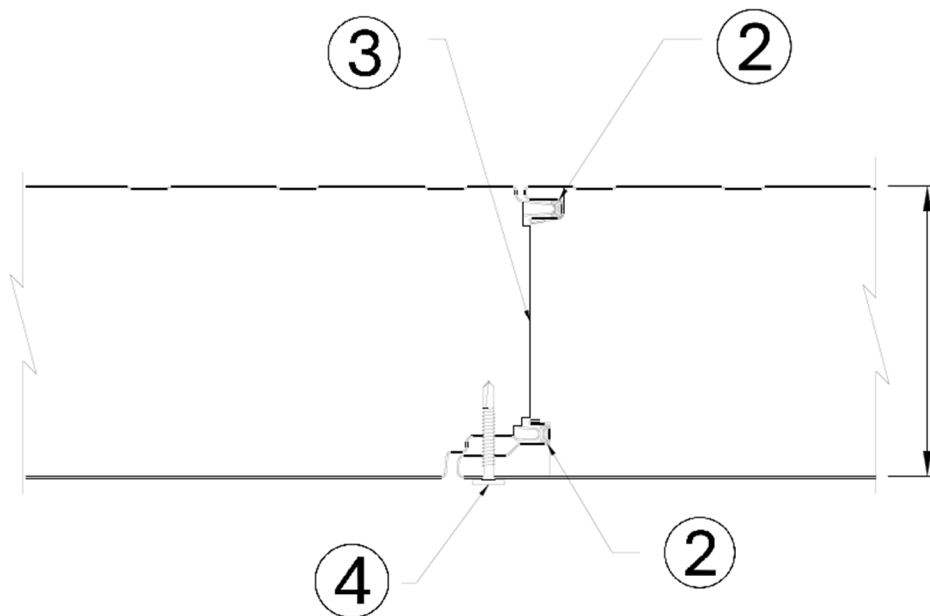

Figure 4: Interlocking Panel Joint
Install nominal 6 in. thick x 42 in. wide Kingspan K-ROC FX Panels w/min. 24/26 GA (ext./int) steel skins, horizontally using the mounting attachments (Item7). The max. span between butt joints is 12 ft. Refer to **Figures 1 and 3** for butt joints, and **Figure 4** for interlocking joints.
3. INTUMESCENT: Refer to **Figure 4**. Use Promat Promaseal®-LW intumescent tape with the widths described below.